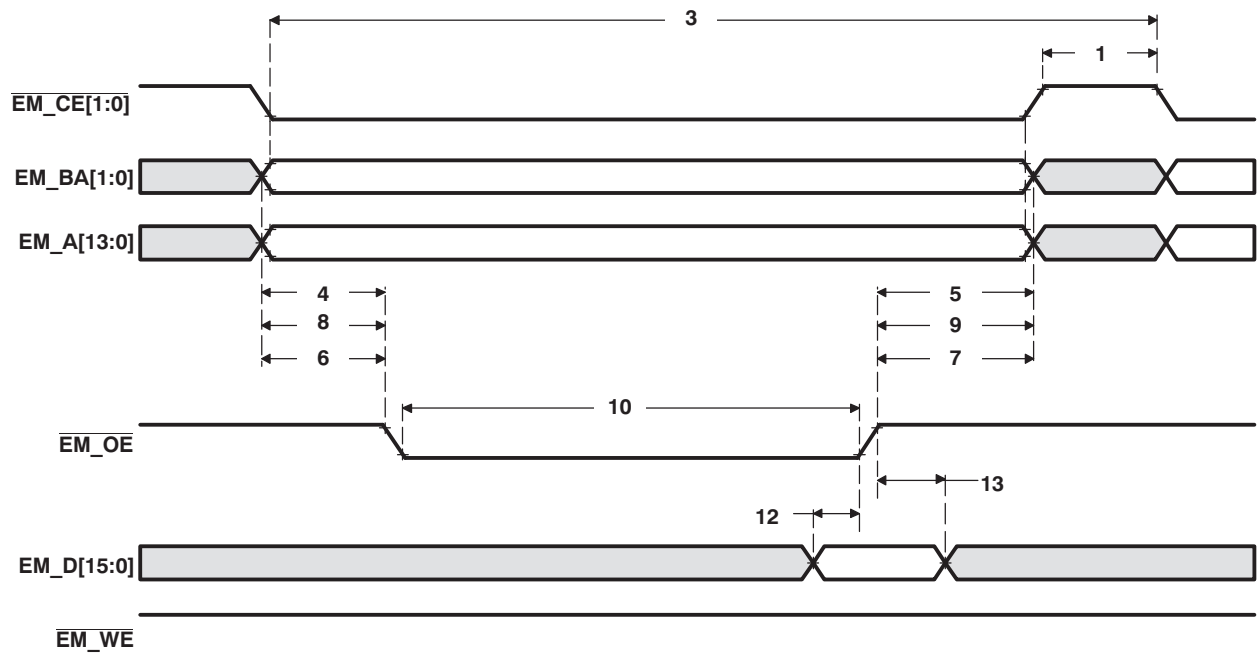
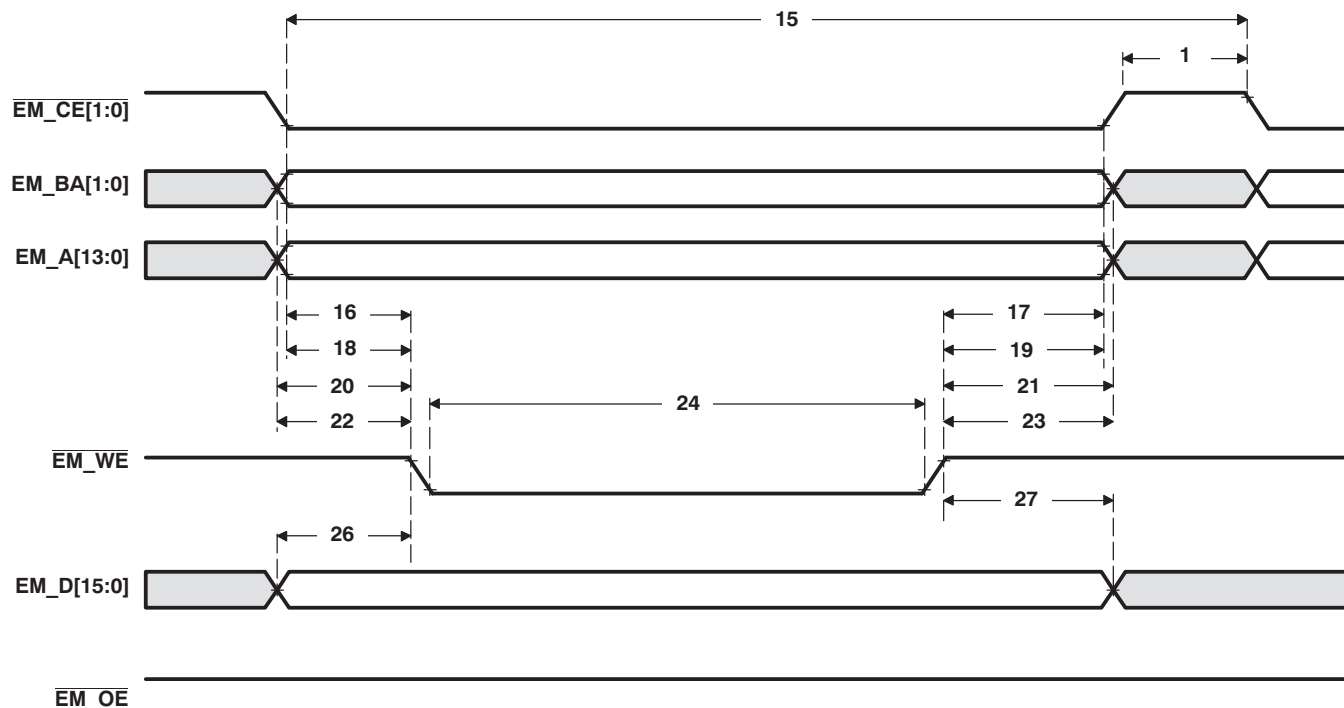

Figure 5-14. Asynchronous Memory Read Timing for EMIF
Figure 5-15. Asynchronous Memory Write Timing for EMIF
Table 5-13. Timing Requirements for Asynchronous Memory Cycles for AEMIF Module⁽¹⁾ (see Figure 5-14 and Figure 5-15)
Table 5-14. Switching Characteristics Over Recommended Operating Conditions for Asynchronous Memory Cycles for AEMIF Module^{(1) (2) (3)} (see Figure 5-14 and Figure 5-15)
- (1) TA = Turn around, RS = Read setup, RST = Read strobe, RH = Read hold, WS = Write setup, WST = Write strobe, WH = Write hold, MEWC = Maximum external wait cycles. These parameters are programmed via the Asynchronous Bank and Asynchronous Wait Cycle Configuration Registers. These support the following range of values: TA[4-1], RS[16-1], RST[64-1], RH[8-1], WS[16-1], WST[64-1], WH[8-1], and MEW[1-256]. See the *TMS320DM355 DMSoC Asynchronous External Memory Interface (EMIF) User's Guide* (literature number SPRUED1) for more information.
- (2) E = PLLC1 SYSCLK2 period in ns. SYSCLK2 is the EMIF peripheral clock. SYSCLK2 is one-fourth the PLLC output clock. For example, when PLLC output clock = 432 MHz, E = 9.259 ns. See Section 3.5 for more information.
- (3) EWC = external wait cycles determined by EM_WAIT input signal. EWC supports the following range of values EWC[256-1]. Note that the maximum wait time before timeout is specified by bit field MEWC in the Asynchronous Wait Cycle Configuration Register. See the *TMS320DM355 DMSoC Asynchronous External Memory Interface (EMIF) User's Guide* (literature number SPRUED1) for more information.
Table 5-14. Switching Characteristics Over Recommended Operating Conditions for Asynchronous Memory Cycles for AEMIF Module ^{(1) (2) (3)} (see Figure 5-14 and Figure 5-15) (continued)
(4) During OneNAND Mode the EM_CLK is driven by 1/2 PLLC1SYSCLK2 clk.